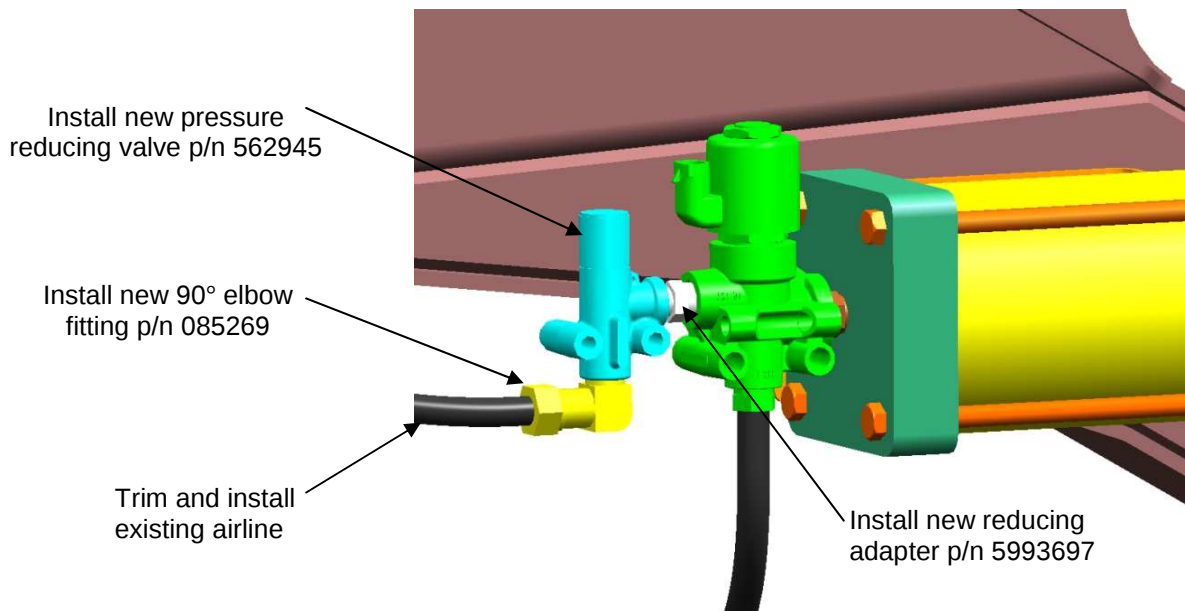

Figure 3: Pressure Reducing Valve Installation
10. Install new reducing adapter p/n 5993697, torque to 12 – 16 lb*ft. Do not apply thread sealant. See Figure 3.
11. Apply loctite p/n 044497 to new 100 psi pressure reducing valve threads p/n 562945 ensuring orifices remain unblocked. Install new reducing valve, turn 2 full turns past finger tight. See Figure 3.
12. Apply loctite p/n 044497 to new 90 degree elbow threads p/n 085269 ensuring orifices remain unblocked. Install new elbow, turn 2 full turns past finger tight. See Figure 3.
13. Trim the ½" black air supply line remove in Step 8 and install to new 90 degree fitting. If supporting p-clip was removed in Step 8, re-install. See Figure 3.